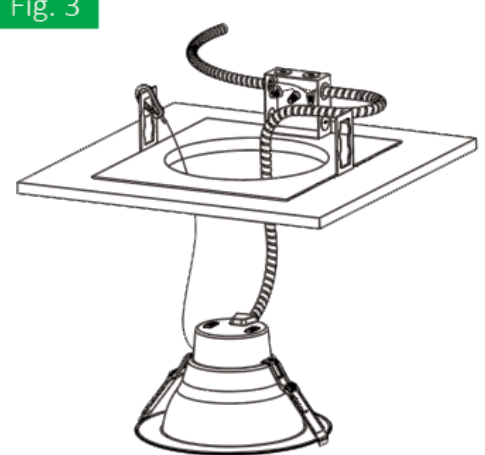

Fig. 4
5. Adjust the fixture power to desired lumen output by sliding the **black** selector switch. Adjust the color temperature to desired one, by sliding the **red** selector switch. (Fig. 4)